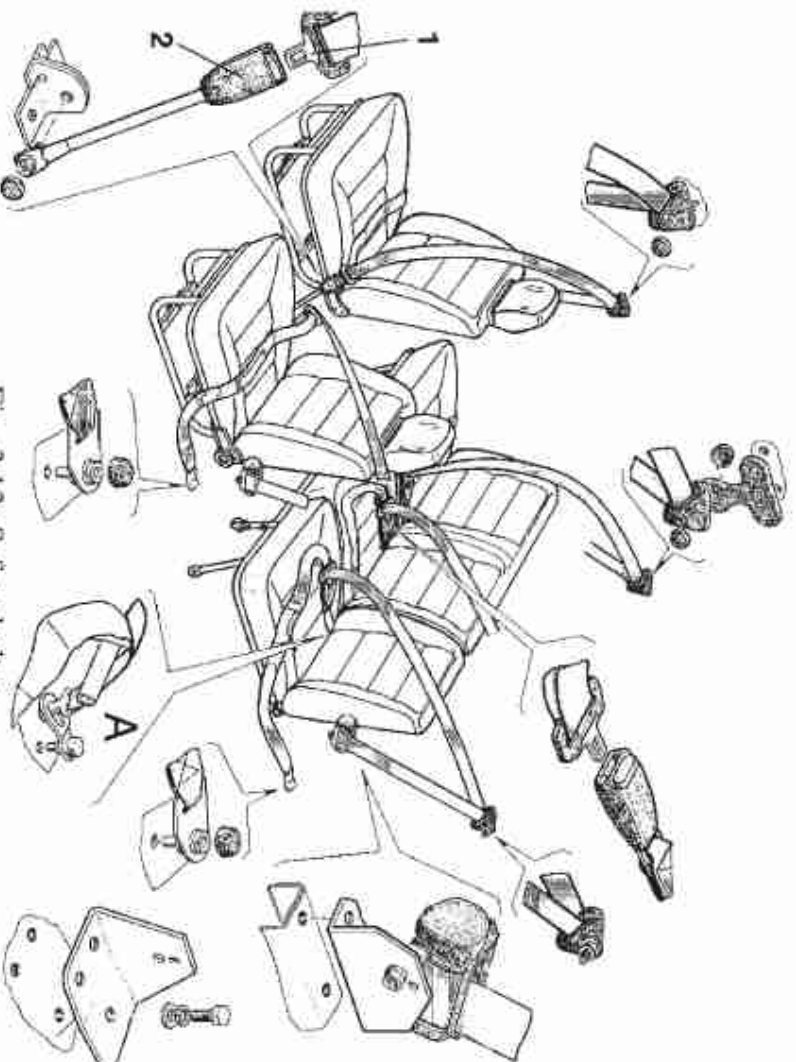

Fig. 3.12. Safety belts:
Your motor vehicle is equipped with safety belts (Fig. 3.12) for all seats. The front and the rear seatbelts are three-point with retraction mechanisms. To fasten the belt, pull belt buckle 1 and, without twisting of straps, insert it into lock 2 until a click id heard. To unfasten the belt, push the button on the lock.
Rear seatbelts are equipped with a quick-disconnect fastener, attached to the floor of the interior (see Fig. 3.12 "A"). When folding the seat, unfasten the belts — turn the belt locking buckle 90° and withdraw it from the bracket slot.
2. The heater tap shall be opened, Fig. 3.12 (the tap lever pos. 1 in extreme bottom position).